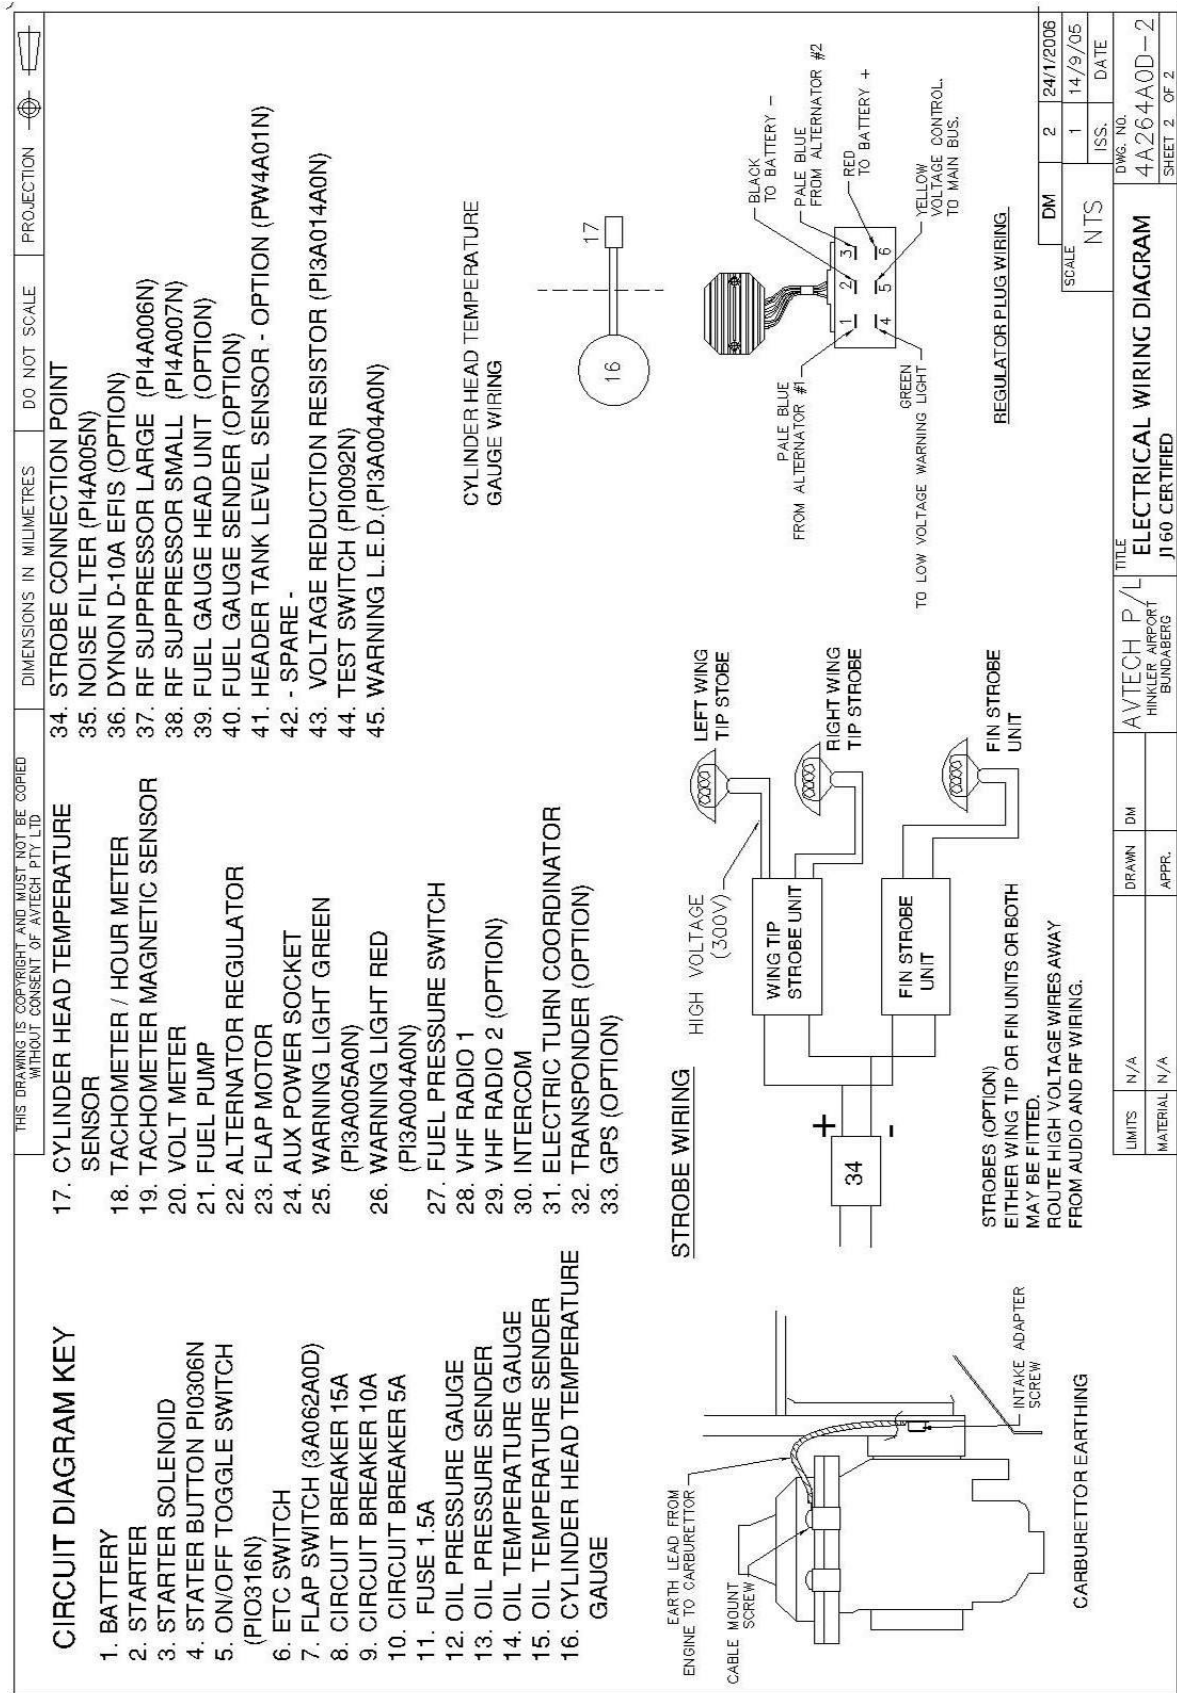

Figure 29. Wiring Diagram Key
- Cables passing through the firewall (such as throttle cables, choke, carburettor heat and cabin heat cables) can transmit RF noise back into the cabin. This can be minimised by earthing the cables at ONE end. On the Jabiru Engine an earth wire (Shown in Figure 29) is provided connecting the carburettor to the rest of the engine, so the throttle and choke cables are connected to earth through this wire.